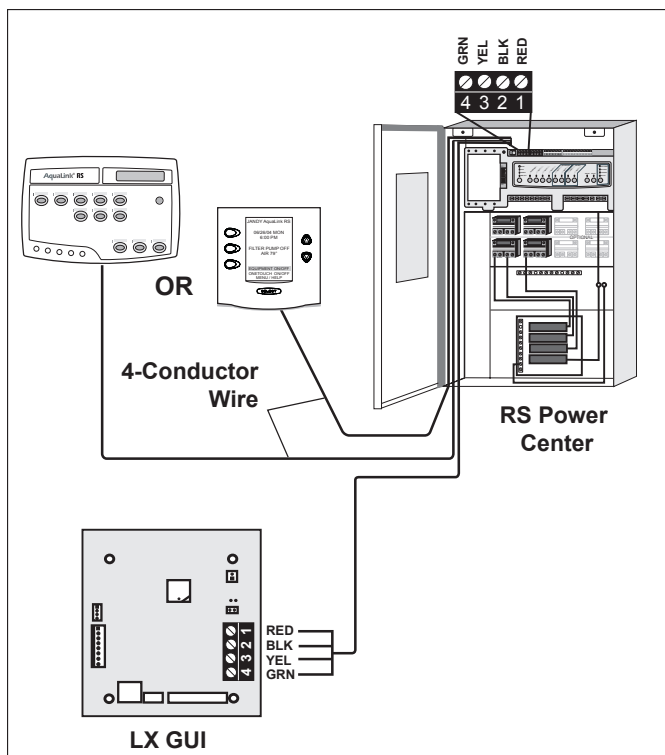

Figure 17. Jandy LX™ Heater Connection to Power Center
3. Run a 4-conductor cable from the LX GUI red, 4-pin connector to the RS power Center red, 4-pin connector (see Figure 17).